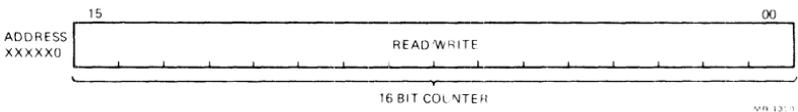

Figure 4 Word Count Register
**Word Count Register (WCR)** – The WCR (Figure 4) is a 16-bit read/write counter which is loaded by the program with the 2's complement of the number of words or bytes to be transferred at one time between memory and the I/O device. At the end of each transfer, the WCR is incremented. When the count becomes zero (all 16 bits = 0), the DMA generates an interrupt request. The contents of the WCR can be monitored by the processor program.